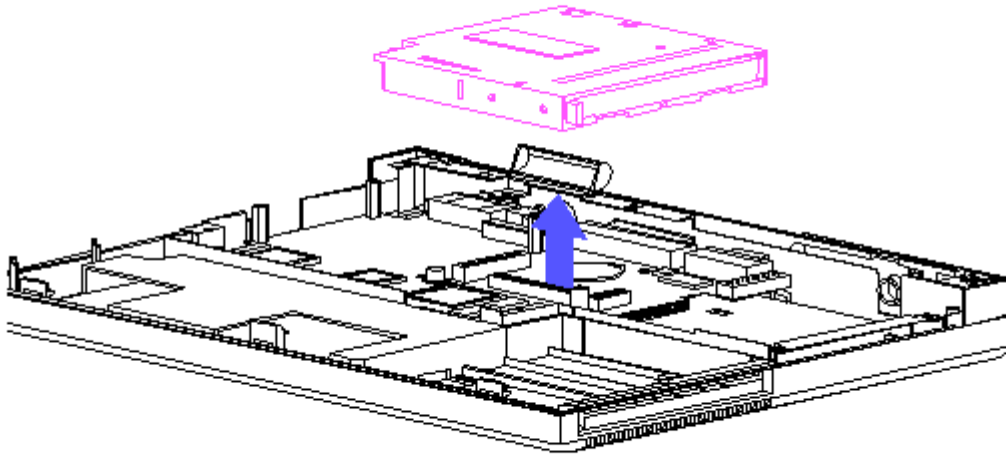

Figure 2-30. Removing the Diskette Drive
4. Carefully lift the diskette drive out of the system chassis (Figure 2-30).